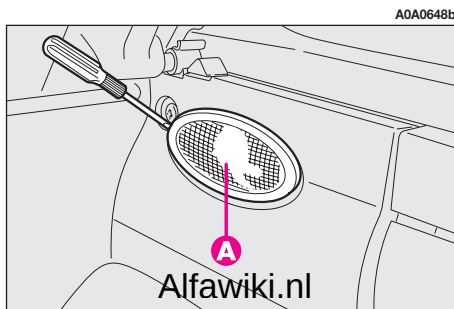

fig. 47
- Remove the light unit (**A**-fig. 47) levering in the point shown by the arrow;